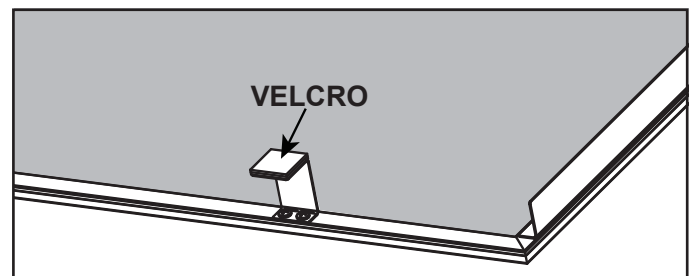

Figure 3. Bend Bottom Brackets
1. Bend two bottom brackets as shown in Figure 3.